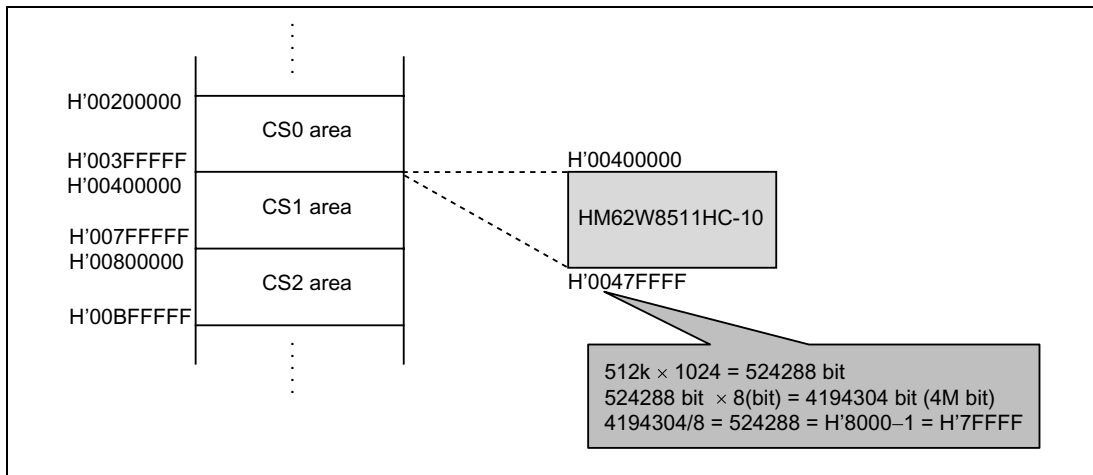

Figure 2.2 Memory Map
(2) Of the memory on the SH7145, area 1 (H'00400000 to H'007FFFFFFF) is allocated, as shown in figure 2.2.